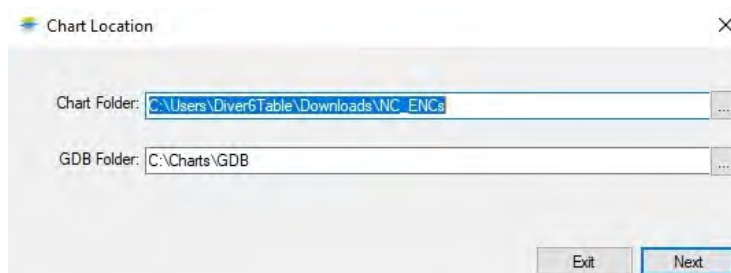

Figure 80: Chart Location
4. A window will appear waiting for your instruction (Figure 80).